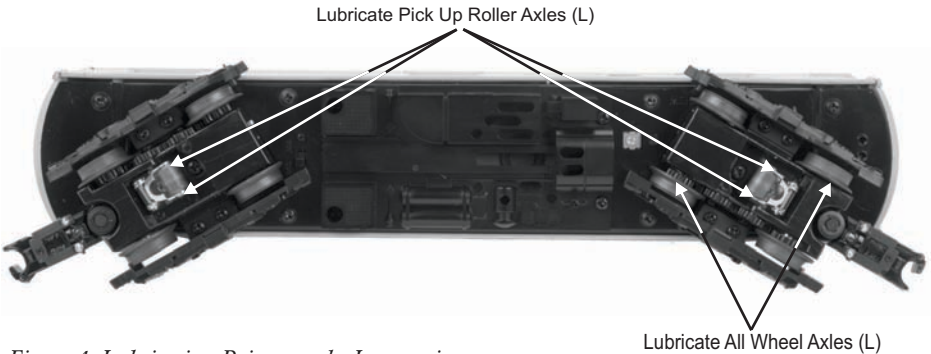

Figure 4: Lubrication Points on the Locomotive
1. Remove the eight Phillips screws from the chassis, as seen in Figure 4, then lift the body away from the chassis.